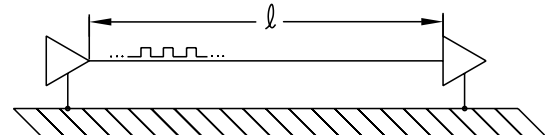
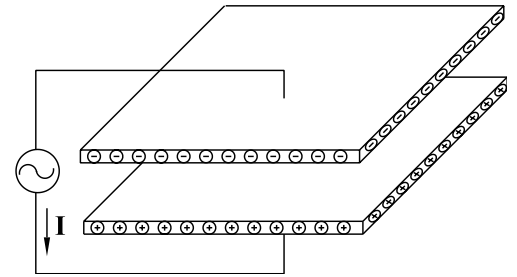
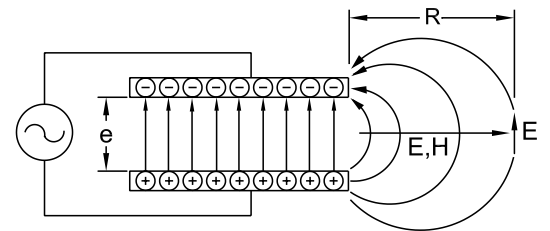

Figure 1
Figure 3
Figure 4
A radiated electromagnetic (EM) wave is generated by the action of driving a current through a wire. An example is that of Figure 1 which represents a sending/receiver circuit on a PC card.
The undergraduate courses on EM theory introduced the concept of an EM wave by using Maxwell's derivation of displacement current. (i.e., driving a pair of parallel plates with an AC voltage source as illustrated in Figure 3.) The current that flows through the wire comes from the top plate and is stored in the bottom plate. The over-presence of the electrons on the bottom plate is illustrated by  $\ominus$  and the absence of electrons on the top plate is illustrated by  $\oplus$ . This creates an EM wave which is illustrated in Figure 4. The EM wave, consisting of the straight lines, is classified as a displacement current and is in Amperes per meter squared. The magnitude of the E field is equal to the voltage differential between the plates divided by the distance between the plates in meters. The resultant E field is in Volts per meter (e.g., a set of parallel plates is used to calibrate electric dipole antennas.)
As is illustrated in Figure 4, the lines of flux in the center of the plates are straight and flow from the bottom to the top plate. At the edges they bow out, where the fields or lines of flux repel each other, forcing the bowing. The field that bows out represents a radiated EM wave. The radiated EM wave emanating from the trace of Figure 1 is similar to the radiated EM wave illustrated in Figure 4. The electric "E" field is tangent to the lines of flux (displacement current) as illustrated in Figure 4. The magnetic "H" field is a field perpendicular to the displacement current and points out of the paper (right hand rule).
The set of plates as illustrated in Figure 4 produce a wave similar to that of the PC card trace of Figure 1 (and of an electric dipole antenna). If the transmitted power is known, the field strength can be calculated using the dipole antenna equation, i.e.,